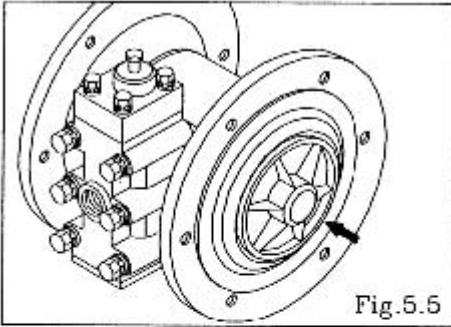

Fig.5.5
- Remove the center disk from one side using the accessory tool (special tool: part No. 771244). [Fig. 5.5]